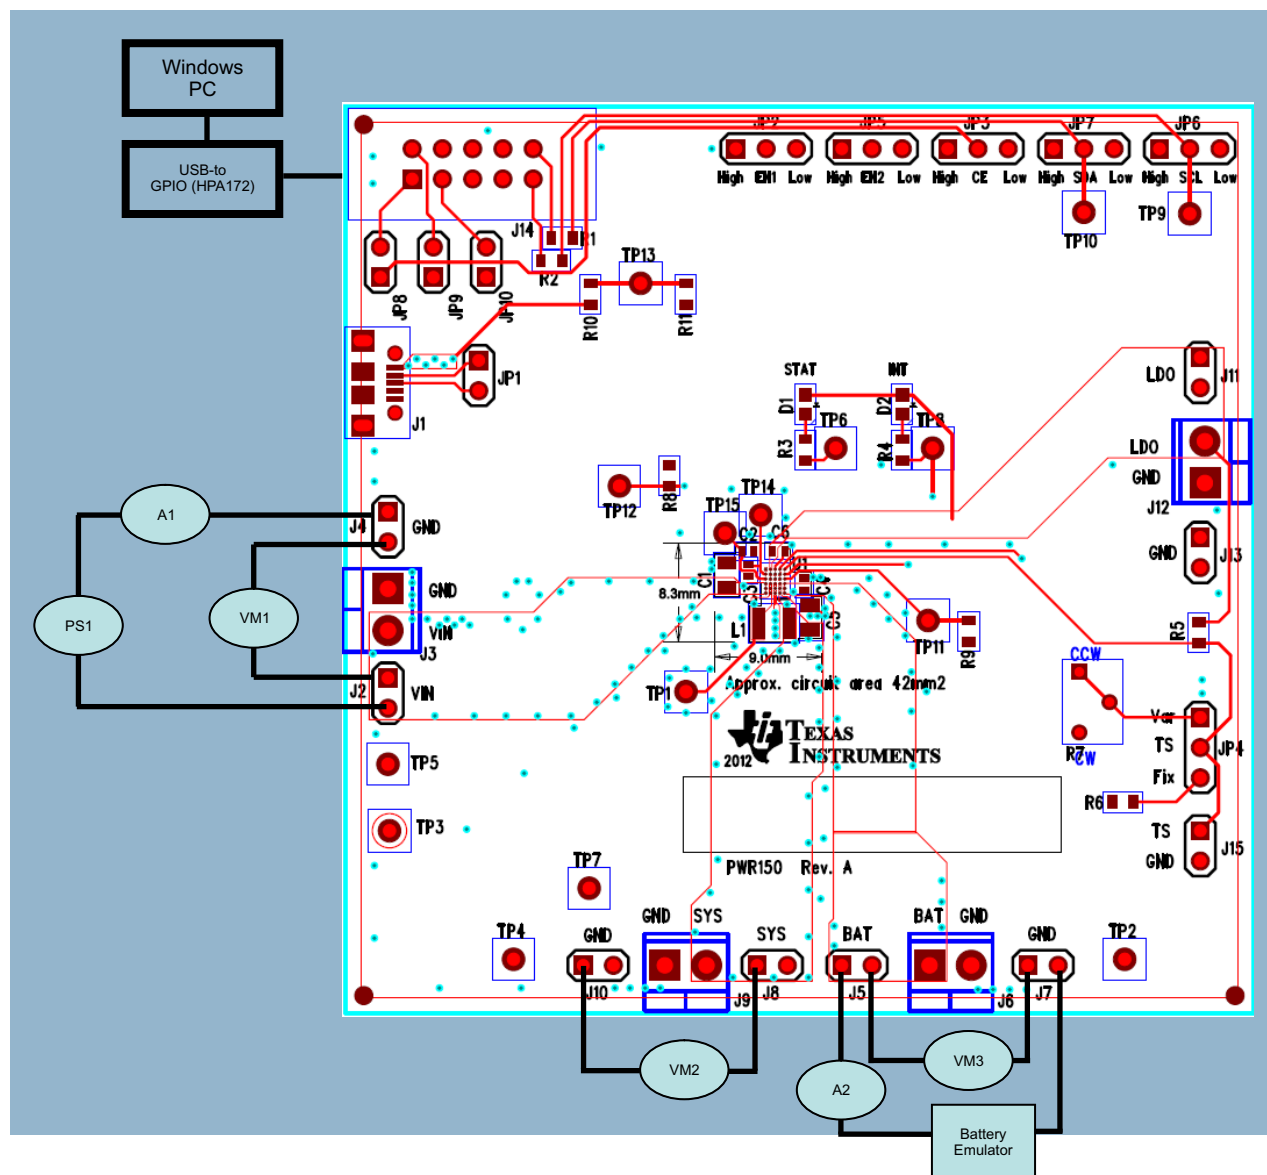

Figure 2. Original Test Setup
- After the proceeding steps have been performed, the test setup for PWR150 is configured as is shown in Figure 2.